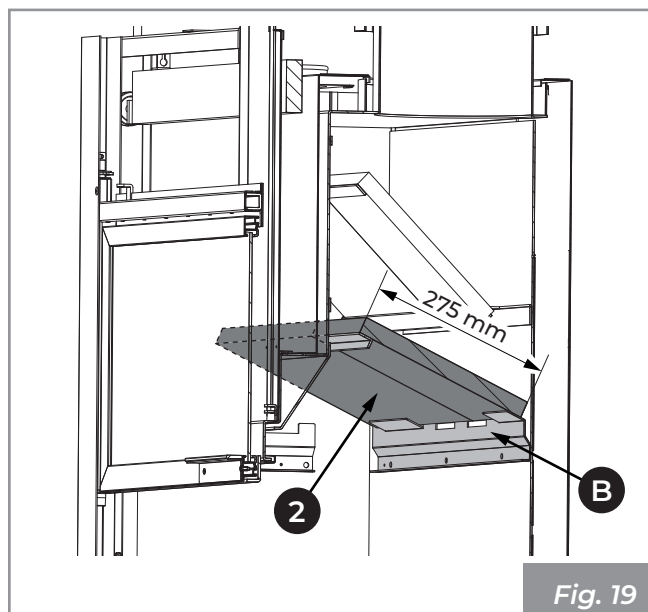

Fig. 19
- 3) Position the panels (2) resting them on the appropriate supports (B) (Fig. 19).